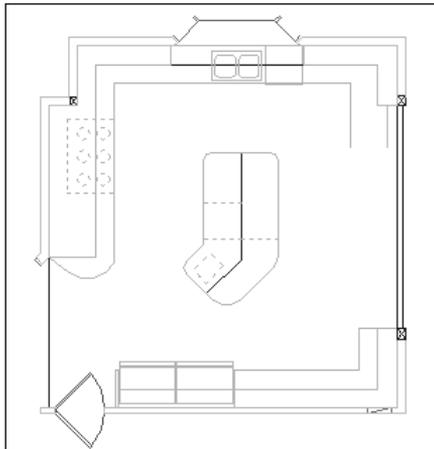

Figure 9-20: Kitchen floor plan with all selected items shown dashed.
8. Type **r ↵** at the **Select objects:** prompt (the prompt changes to **Remove objects:**) and pick the line at **8** to remove the external island line picked in Step 7. At this point, all the selected items should be dashed, as shown in Figure 9-20.
10. Turn on OSNAP. Start the MOVE command. At the Select objects: prompt, type **p** ↵ and then press Enter again to end object selection. At the Specify base point or displacement: prompt, pick the endpoint at 9 in Figure 9-20. At the Specify second point of displacement or <use first point as displacement>: prompt, pick the endpoint at 10. All the objects move.